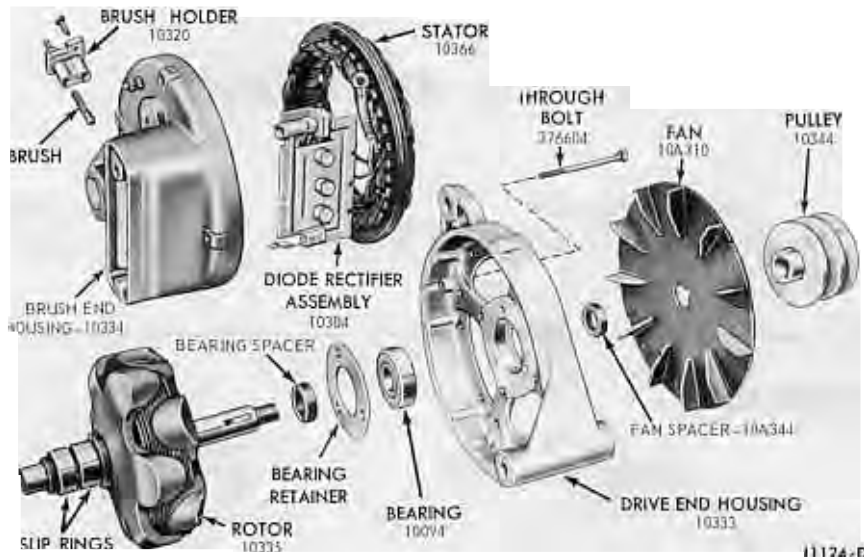

FIG. 2—Disassembled 53-Ampere Leece Neville Alternator
1. Remove the brush holder and the brushes (Fig. 2). Scribe the end housings for reference in assembly.